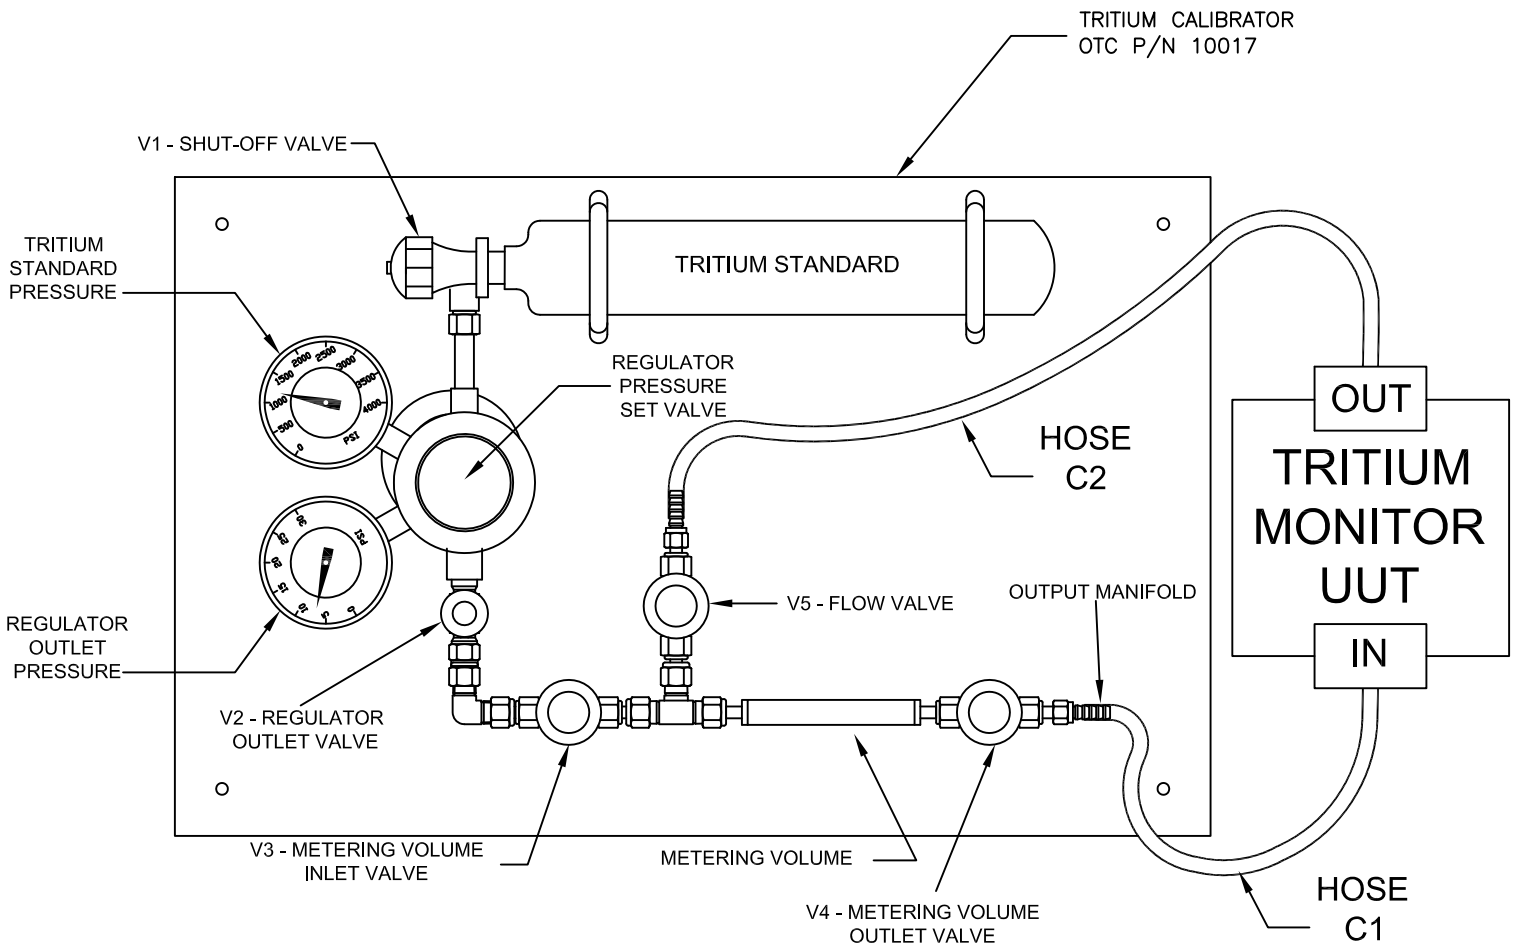
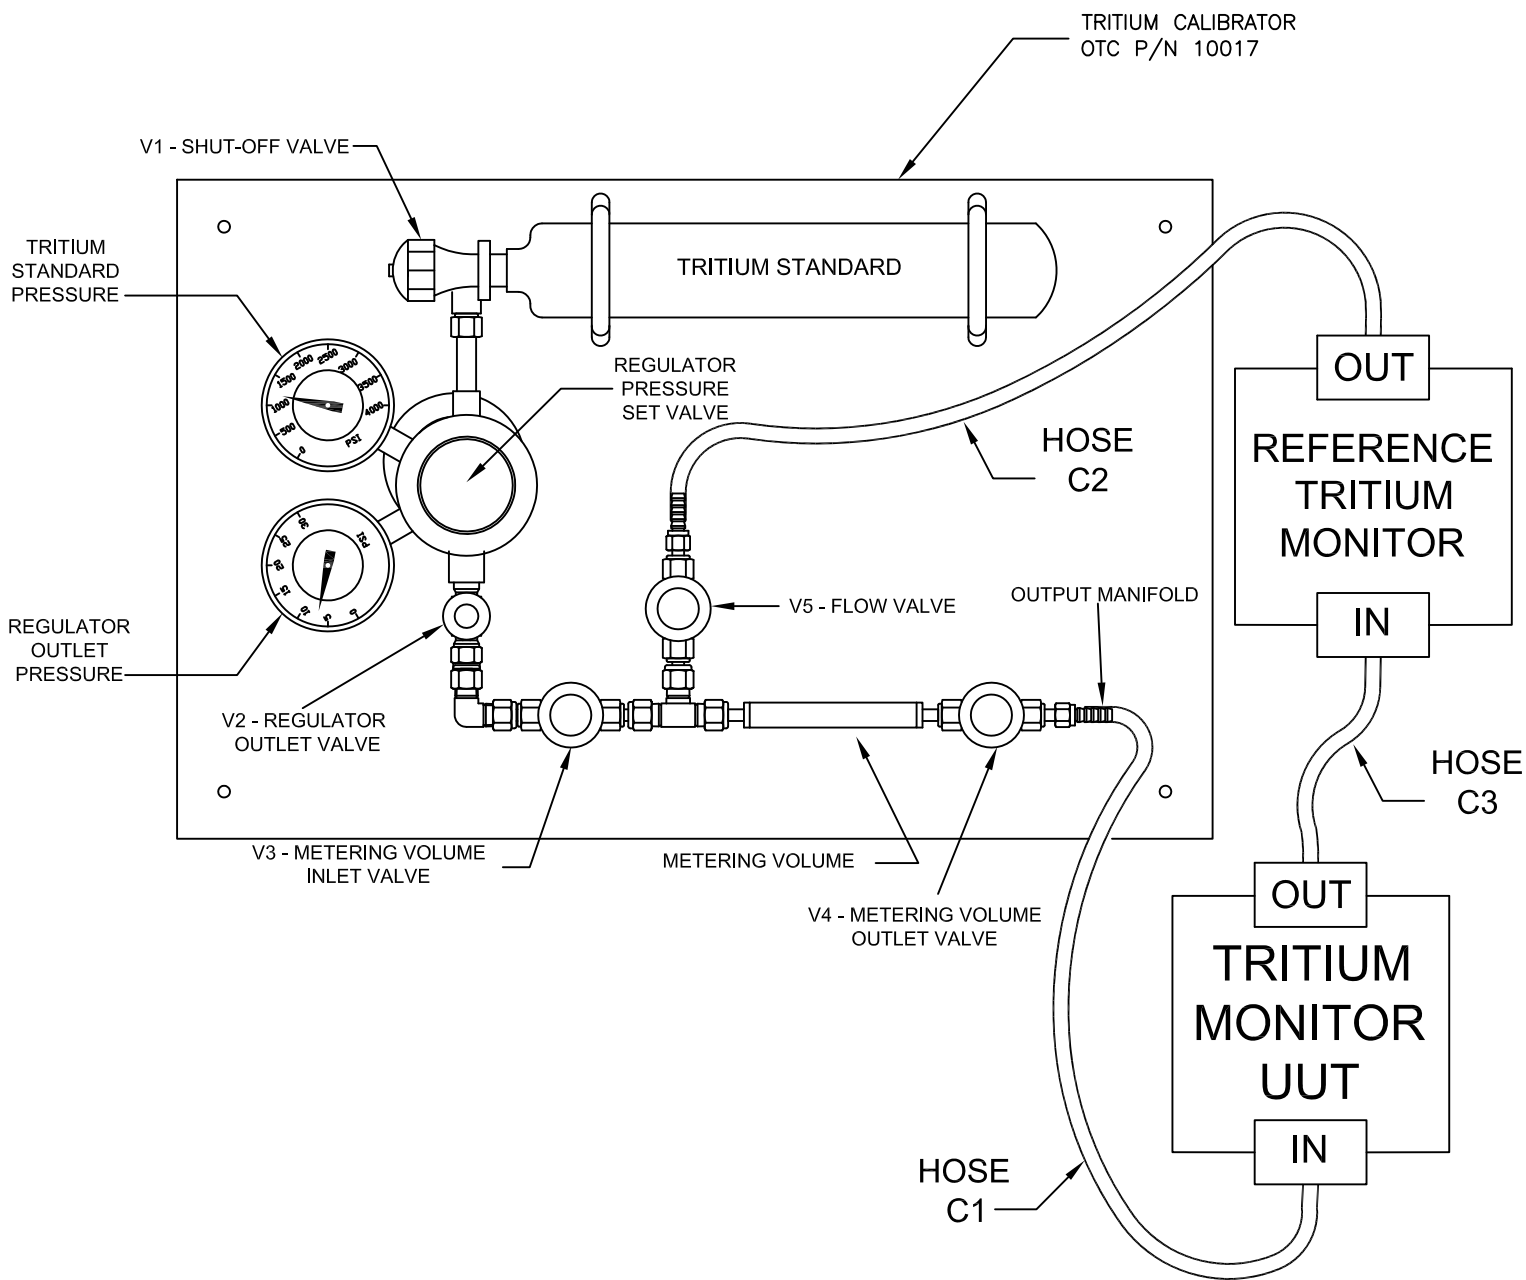

FIGURE 3
FIGURE 4
4.6. Arrange the Tritium Calibrator and the UUT Tritium Monitor in a closed loop. Attach hoses as shown in Figure 3 or 4. Figure 3 shows the method using the UUT only. Figure 4 shows the method using the UUT and an additional reference monitor. The preferred method is to use a reference monitor as shown in Figure 4. For best results, the accuracy of the reference monitor should be equal to or better than the UUT. The reference monitor serves as a consistency checker. In practice, the reference reading is compared to the UUT reading. Thus, the inaccuracies of values used for the different volumes and the results of the equation (Section 5) are of less concern. The reading of the Reference monitor is assumed to be more accurate. The reference monitor should be calibrated on regular basis to assure that accurate results are obtained. After connecting the hoses, inspect to insure that the loop is leak free.
4.9. Procedure, without the use of a Reference Monitor, See Figure 3
4.21. Procedure, with a Reference Monitor, See Figure 4